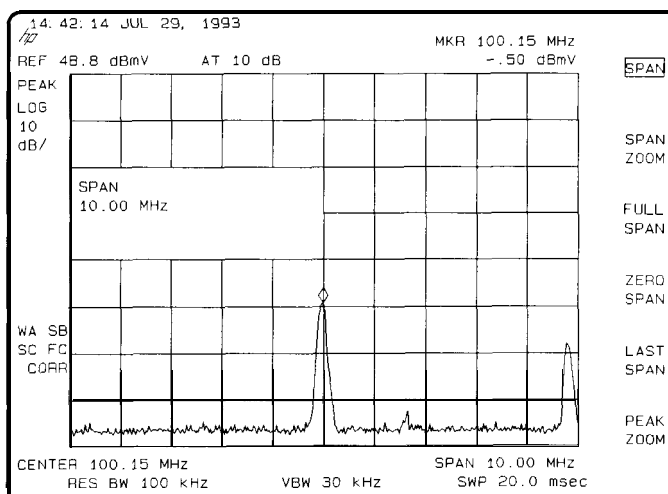

Figure 4-15. low-level Signal
5. Reduce the span to 10 MHz. Press **SPAN**, and then use the step-down key (**↓**). See Figure 4-15.